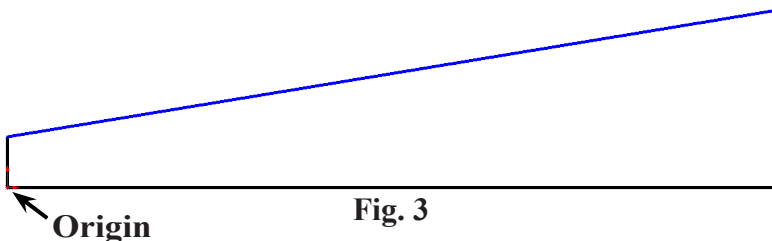

Fig. 3
Step 2. Click **Line**  (L) on the Sketch toolbar.
Step 3. Starting at the Origin  sketch the lines in **Fig. 3**.